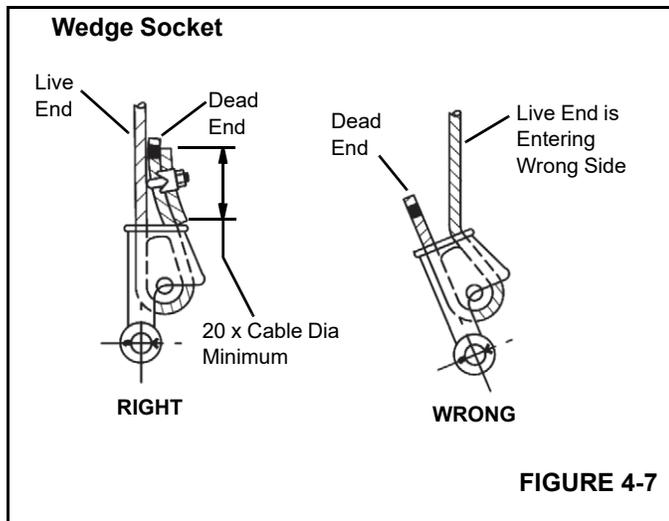

FIGURE 4-7
3. Make sure the live-end (Figure 4-7) of the rope is directly in line with the ears of the socket and the direction of pull to which the rope will be subjected. If the rope is loaded into the socket incorrectly, under a load the rope will bend as it leaves the socket, and the edge of the socket will wear into the rope causing damage to the rope and eventual failure.
4. Insert the end of the wire rope into the socket, form a loop in the rope, and route the rope back through the socket allowing the dead-end (Figure 4-7) to protrude from the socket. Ensure the dead-end of the rope is of sufficient length to apply end treatment to the dead-end after the wedge has been seated.